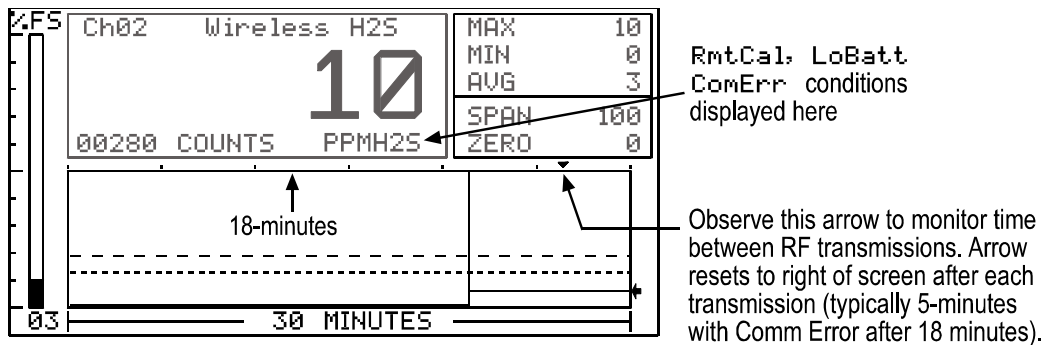

Figure 7.4
- **Communications Error** – Each channel's 30-minute trend screens (Figure 7.4) are very useful for diagnosing wireless problems since it indicates amount of time since the most recent transmission was received. The down arrow on top of the trend screen resets to far right each time a transmission is received by that channel. When not in alarm, GASMAX ECX00's transmit each 5-minutes so the arrow should never progress past the 5-minutes interval. The C1 activates the channel's **FAULT** alarm and indicates **ComErr** if no transmission has been received in 18 consecutive minutes.